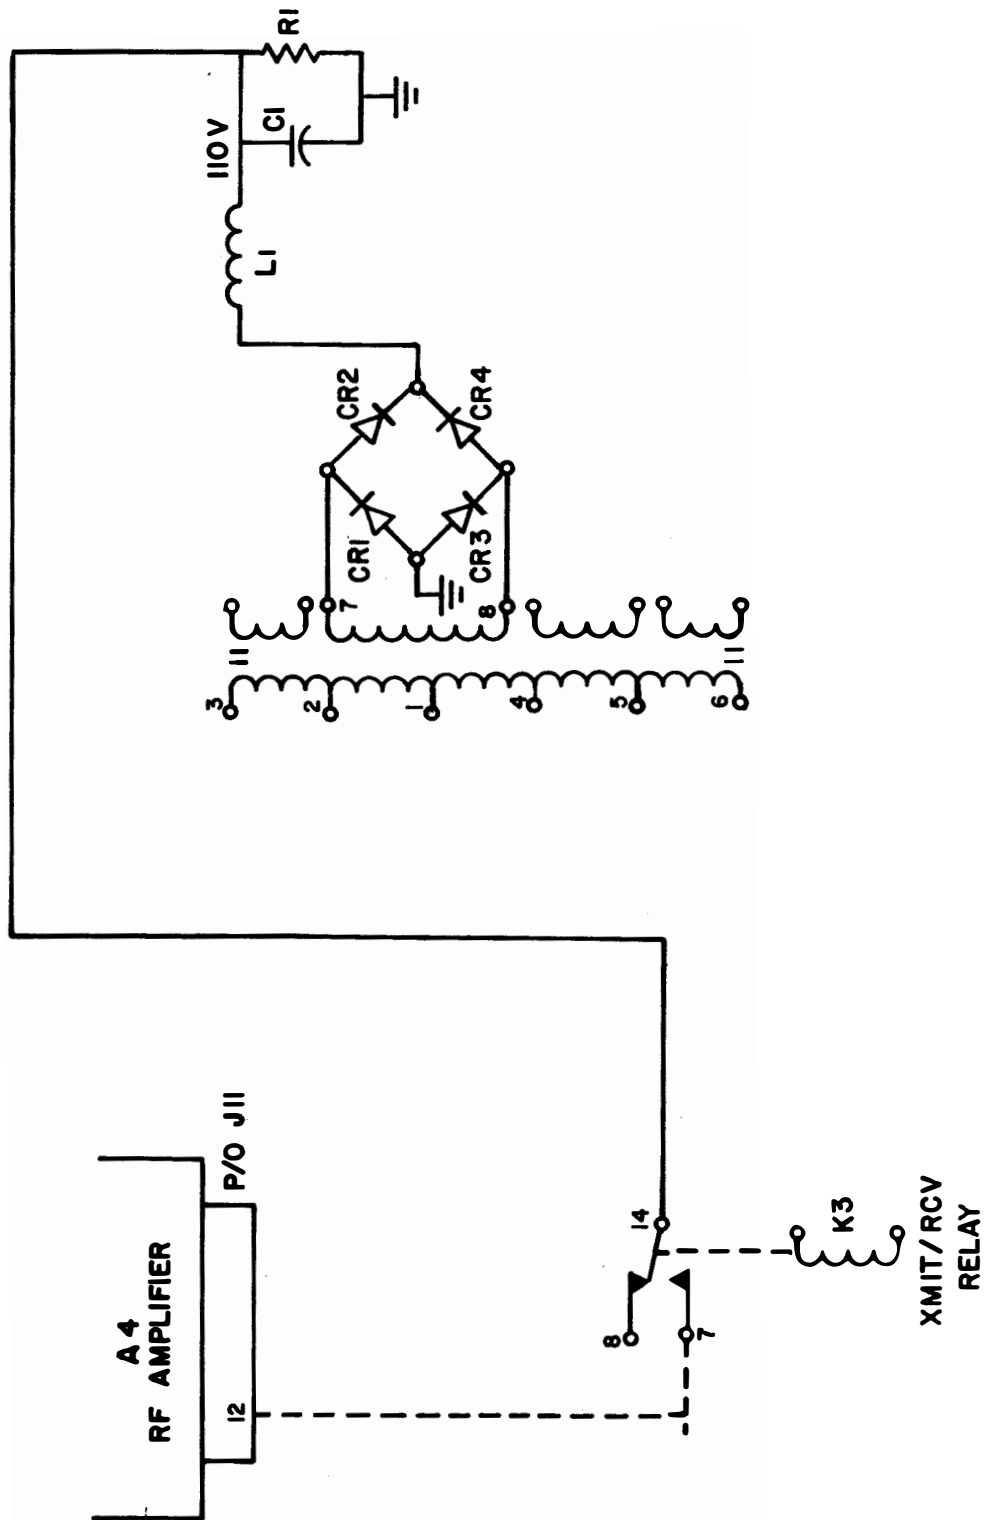

FIGURE 3
4. TRACE the 110 VDC using blue as the recommended color on page 11 (8-C) and using Figure 3.